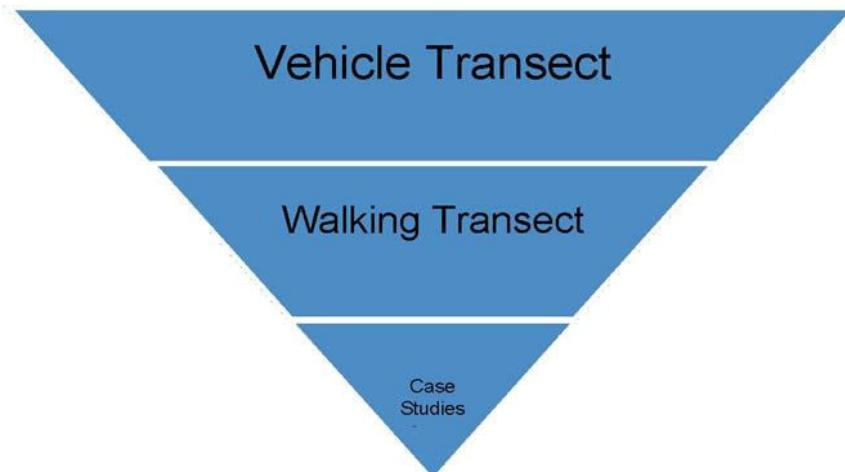

Figure 1: Observation Levels-decreasing in number; increasing in detail
2.2 The PET protocol to estimate crop performance through identifying yields at harvest time comprises the application of increasing intensities of observation, best described diagrammatically as an inverted pyramid as shown in Figure 1. The observations begin from the vehicle, then during walking slowly past the fields, and finally, are made within fields during discussions with farmers.